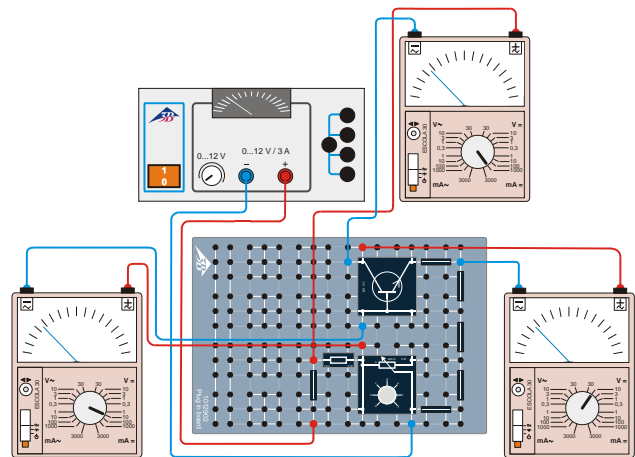

Fig. 4: Sketch of circuit for recording transfer characteristic.
- Set up the circuit as shown in Fig. 4. The three analogue multimeters in the circuit are for the purpose of checking the collector-emitter voltage U_{CE} while measuring the base current I_B and collector current I_C .